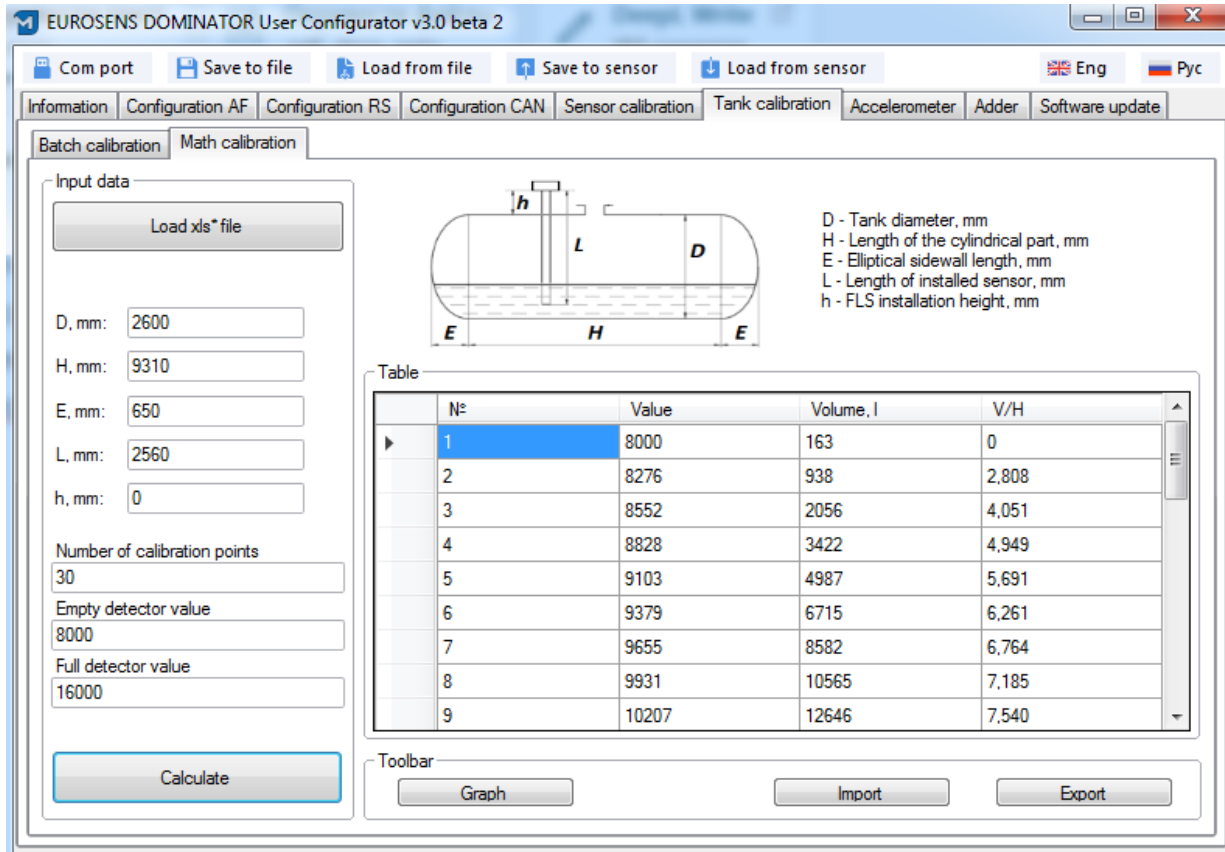

Fig. 3.1. Cistern calibration calculator
3.1 Tools for calibration of large tanks (cisterns) , using existing calibration tables (example in Fig. 3.1).